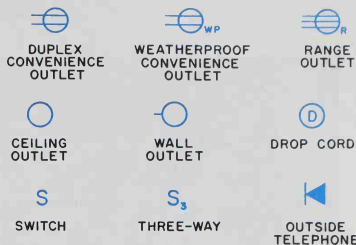

Fig. 12-9. Electrical symbols for floor plans.
2. Include electrical, plumbing and kitchen equipment on your floor plan. Refer to Fig. 12-9 and 12-10 for details of these.